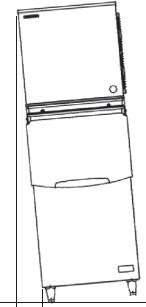

Fig. 2
* Level the dispenser unit/ice storage bin in both the left-to-right and front-to-rear directions. If using an ice storage bin, adjust the ice storage bin legs to level. See Fig. 2.